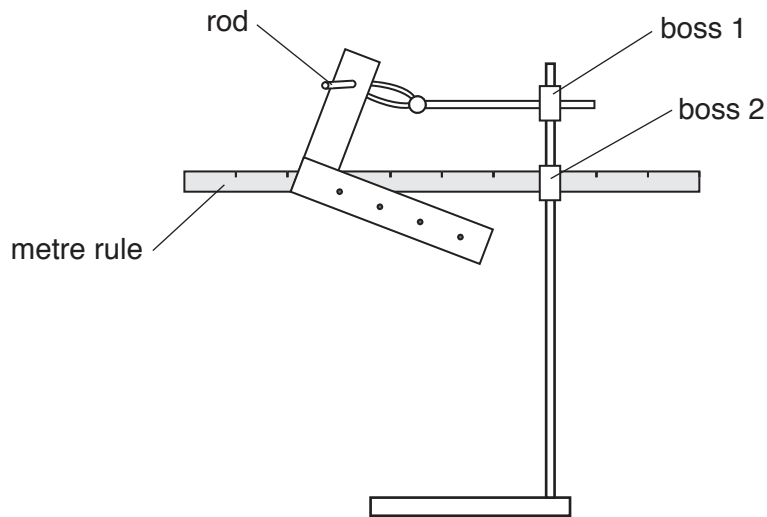

Fig. 3.2
2. The supervisor should set up the apparatus as shown in Fig. 3.2.
At the changeover the supervisor must ensure that the apparatus is restored to the arrangement shown in Fig. 3.2. The metre rule should be horizontal by eye.